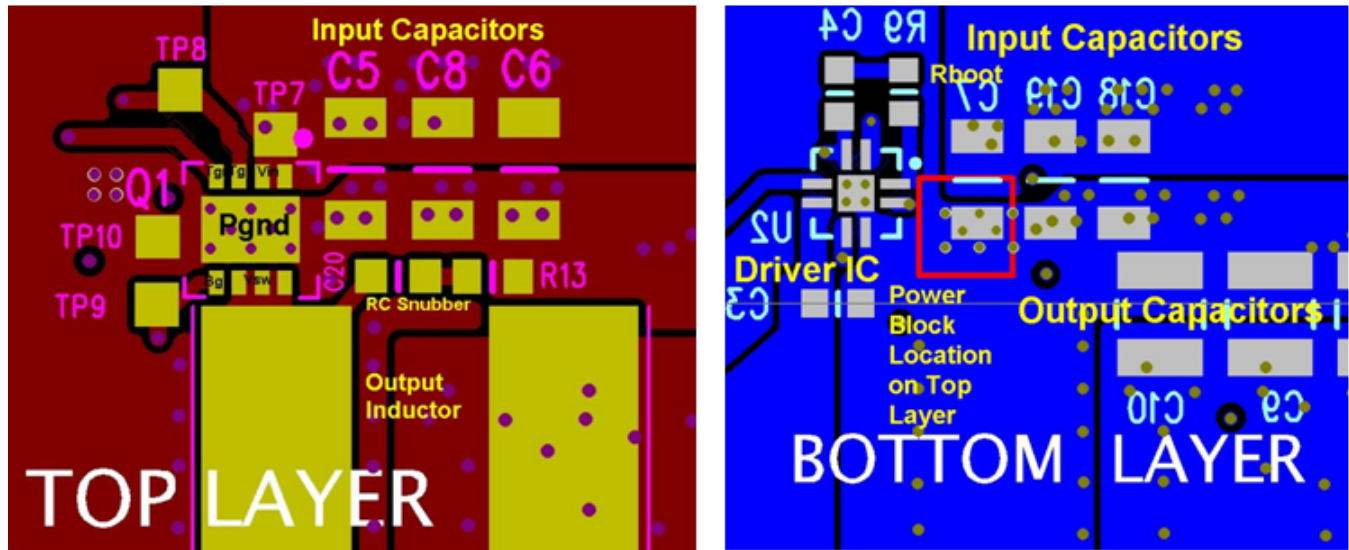

Figure 21. Recommended PCB Layout (Top Down)
- The placement of the input capacitors relative to the power block's V_{IN} and P_{GND} pins should have the highest priority during the component placement routine. It is critical to minimize these node lengths. As such, ceramic input capacitors need to be placed as close as possible to the V_{IN} and P_{GND} pins (see Figure 21). The example in Figure 21 uses six 10- μ F ceramic capacitors (TDK C3216X5R1C106KT or equivalent). Notice there are ceramic capacitors on both sides of the board with an appropriate amount of vias interconnecting both layers. In terms of priority of placement next to the power block, C5, C7, C19, and C8 should follow in order.
- The switching node of the output inductor should be placed relatively close to the power block V_{SW} pins. Minimizing the node length between these two components will reduce the PCB conduction losses and actually reduce the switching noise level.⁽¹⁾ In the event the switch node waveform exhibits ringing that reaches undesirable levels, the use of a boost resistor or RC snubber can be an effective way to easily reduce the peak ring level. The recommended boost resistor value will range between 1 Ω to 4.7 Ω depending on the output characteristics of driver IC used in conjunction with the power block. The RC snubber values can range from 0.5 Ω to 2.2 Ω for the R, and from 330 pf to 2200 pF for the C. Please refer to Snubber Circuits: Theory, Design and Application (SLUP100) for more details on how to properly tune the RC snubber values. The RC snubber should be placed as close as possible to the V_{SW} node and P_{GND} (see Figure 21).⁽¹⁾
(1) Keong W. Kam, David Pommerenke, "EMI Analysis Methods for Synchronous Buck Converter EMI Root Cause Analysis", University of Missouri – Rolla
- Use the smallest drill size allowed in your design. The example in Figure 21 uses vias with a 10-mil drill hole and a 16-mil capture pad.